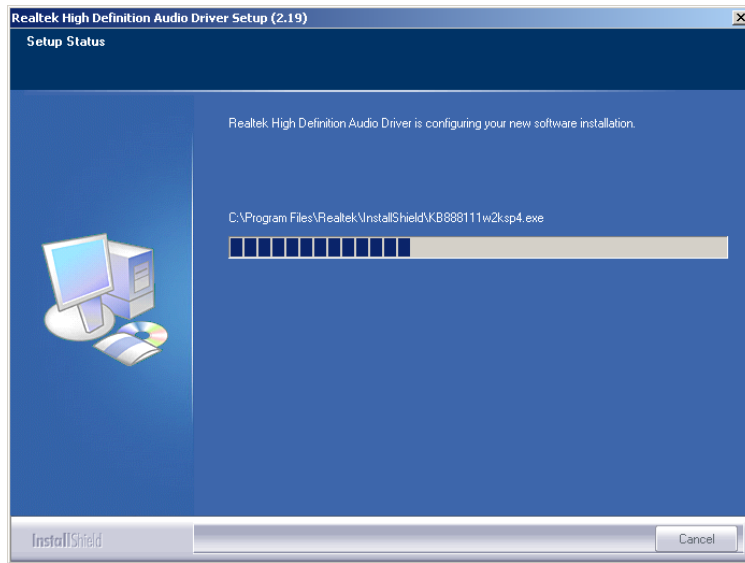

Figure 7-49: Audio Driver Software Configuration
Step 11: InstallShield starts to install the new software as shown in **Figure 7-49**.